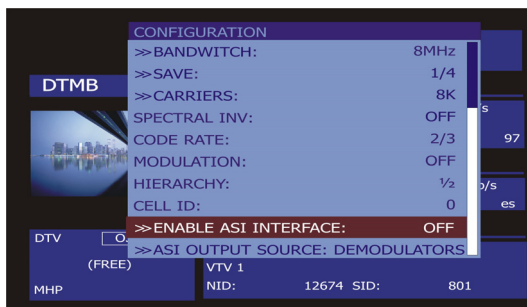

Figure 59.-
6. Select the option **ECHOES** (Figure 59.-).